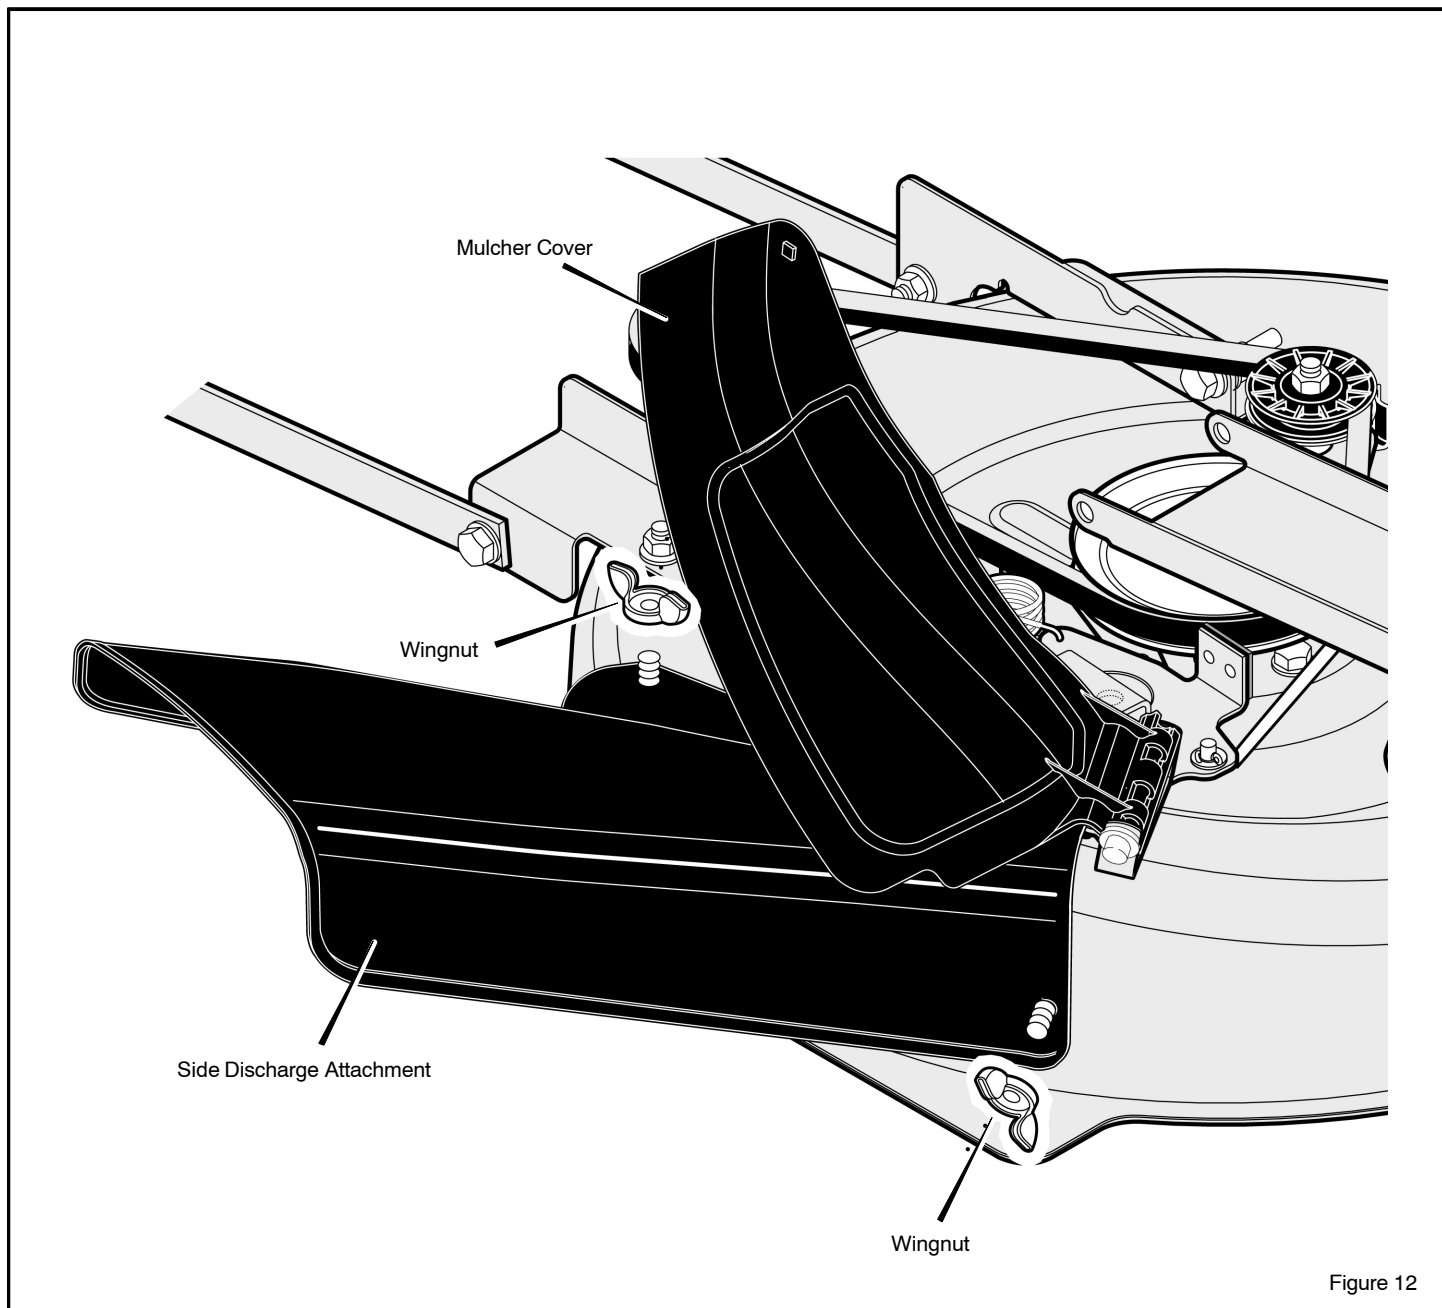

Figure 12
1. Remove the two **wingnuts** that secure the **mulcher cover** (see Figure 12).